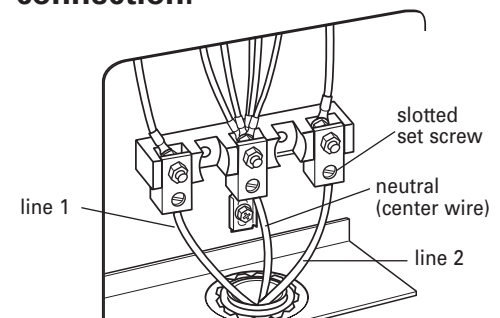

Figure 3
10. Loosen (do not remove) the 3 slotted set screws. Insert the neutral (white) wire into the hole at the bottom of the center position lug (attached to center terminal screw of terminal block). See Figure 3.
For 8 gauge copper wire, tighten to 25 in/lbs of torque, and for 6 gauge aluminum wire, tighten to 35 in/lbs of torque to make a proper electrical connection. See Figure 3.